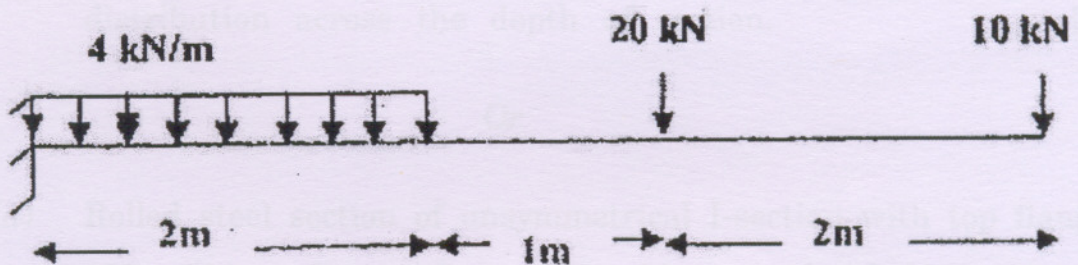

Fig. 4
4. (a) Draw SFD and BMD for cantilever beam loaded as shown in Fig. 4.